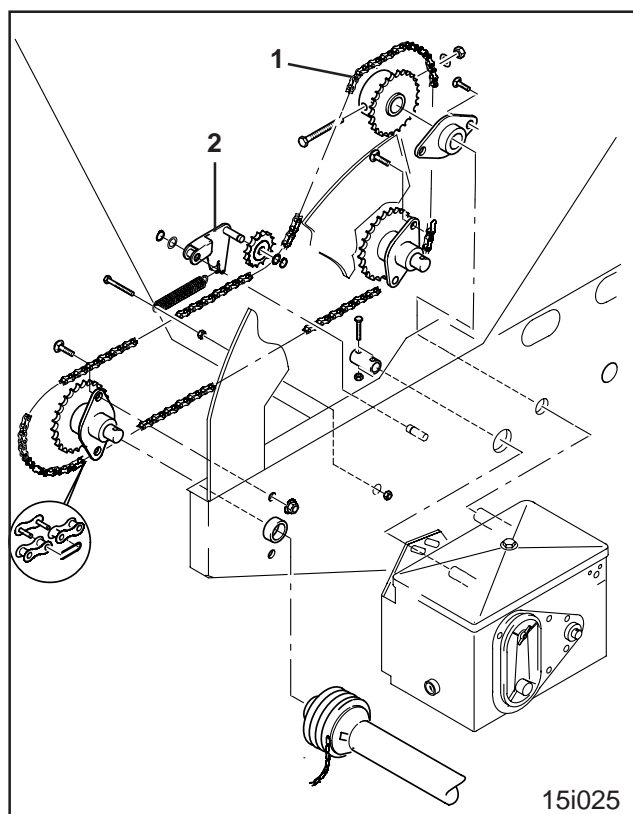

Fig. 16.4
- of the drive chain (Fig. 16.4)
The drive chain (Fig. 16.4/1) is tensioned by an automatic chain tensioner (Fig. 16.4/2).